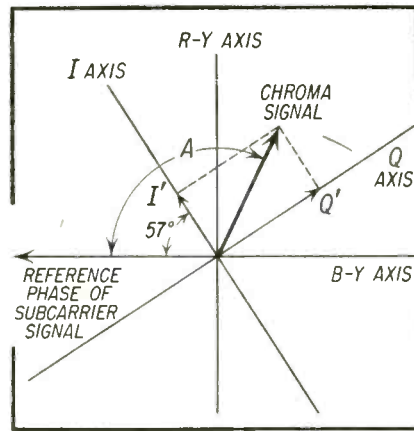

Fig. 2—Color of chroma signal is determined by angle between reference phase of subcarrier and phase of chroma signal.
As an example, let us consider a chroma signal, such as the one shown in Fig. 2, which is made up of the signals I' and Q'. Notice that because of the fixed angles of the I and Q axes the amplitudes of the color signals I' and Q' determine both the amplitude and phase angle (A) of the resultant chroma signal with respect to the reference phase of the 3.58 mc burst.